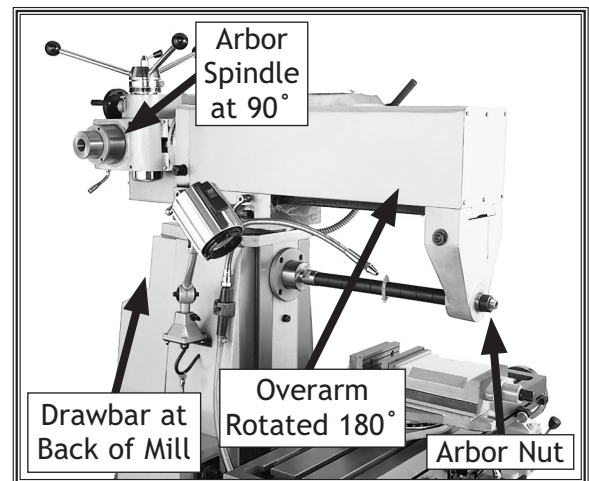

Figure 35. Horizontal spindle with arbor loaded.
3. Rotate the vertical spindle 90°, as shown in **Figure 35**.
4. Rotate the overarm 180° so that the spindle support is in-line with the horizontal spindle axis, as shown in **Figure 35**.